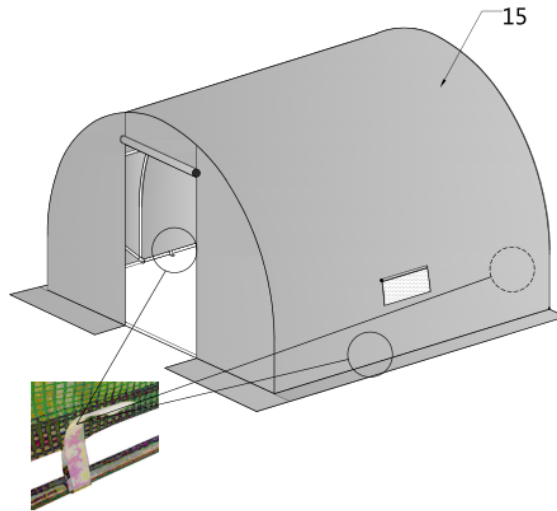

Figure 13
- Tie the left and right sides of the fabric and the rear truss to eliminate wrinkles. The fabric is tensioned and tied to the roof purlin (#5) and (#5A) at the lower part of the truss, and the bottom tension bar (#6) and (#7A) at the lower part of the rear truss with the Velcro on the fabric. (refer to figure 13)